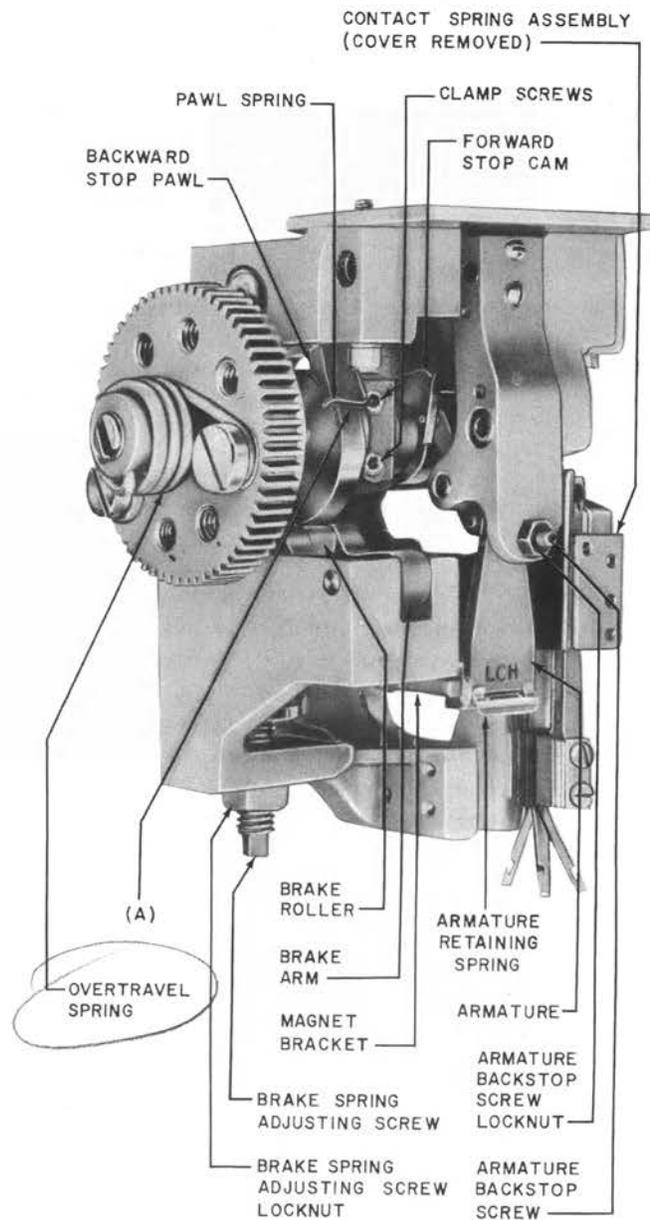

Fig. 32—Latch Assembly
- (a) With the latch shaft rotated in the normal (forward) direction until the raised portion of the forward stop cam is against the forward stop roller [Fig. 32, (A)], the clearance between the end of the backward stop pawl and the notch of the brake cam notch shall be
#### Latch Assembly (Fig. 32)
**2.37 Pawl Spring Tension:** With the perforator in the home position (1.05), the tension of the pawl spring against the backward stop pawl (Fig. 32) shall be